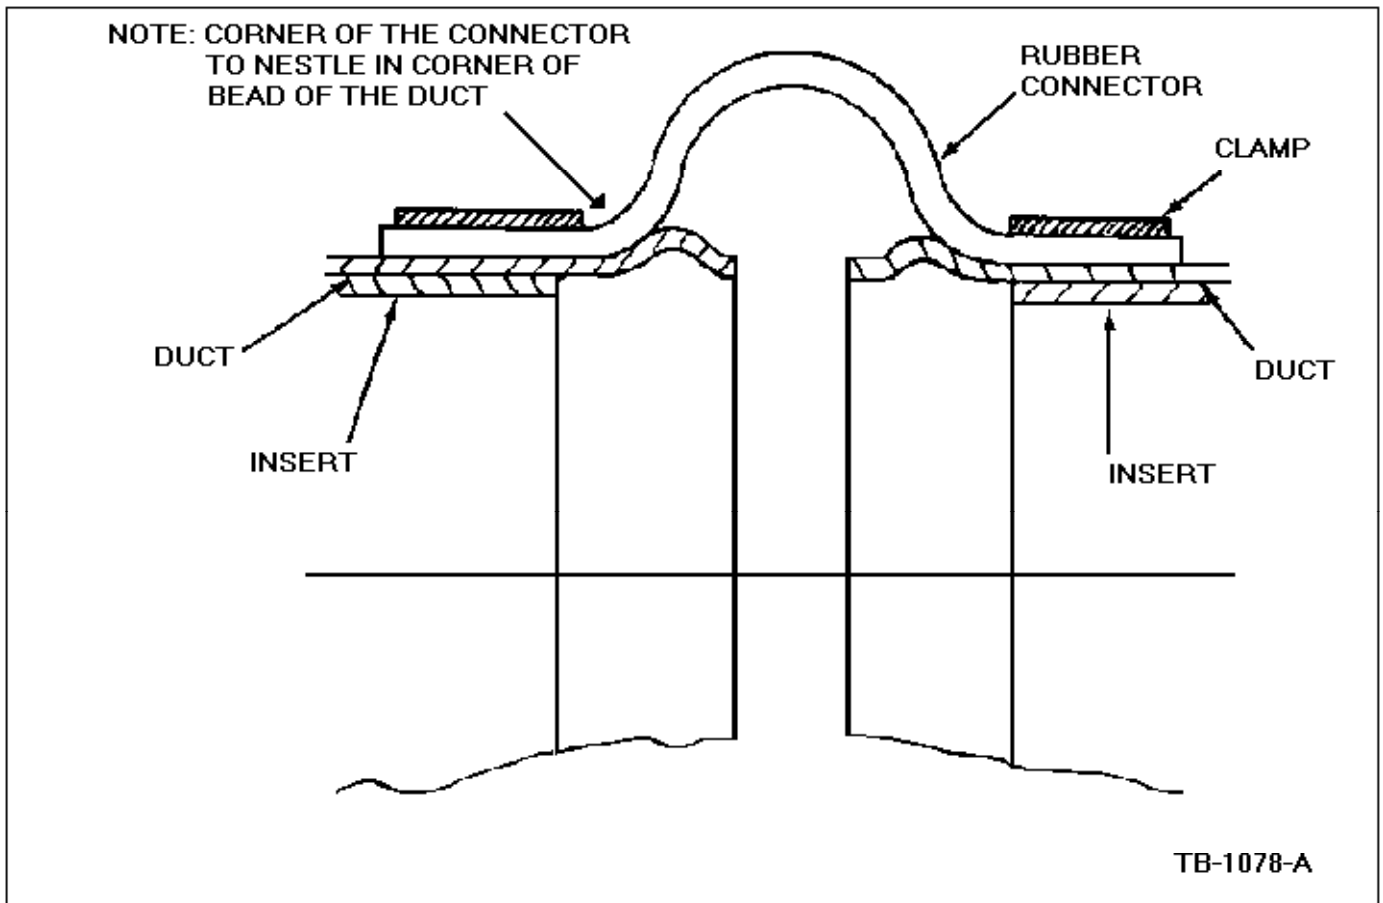

Figure 2 - Article 89-9-19
6. Install a new turbocharger to aftercooler air tube as shown in Figure 2.
7. Install a new intake manifold to aftercooler air tube as shown in Figure 2.